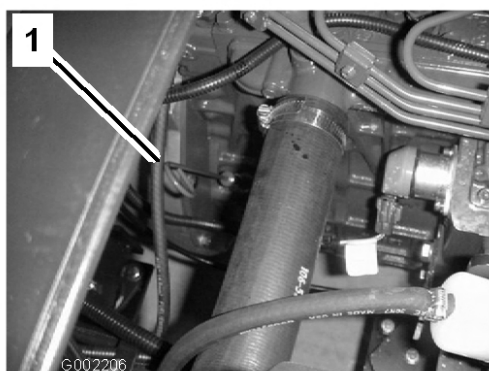

Figure 38
2. Remove the dipstick, located under the passenger seat, and wipe it with a clean rag (Figure 38). Insert the dipstick into the tube and make sure it is seated fully. Remove the dipstick and check the oil level.
13. Remove the oil filler cap and slowly pour approximately 80% of the specified amount of oil into the engine at the oil filler (Figure 38).